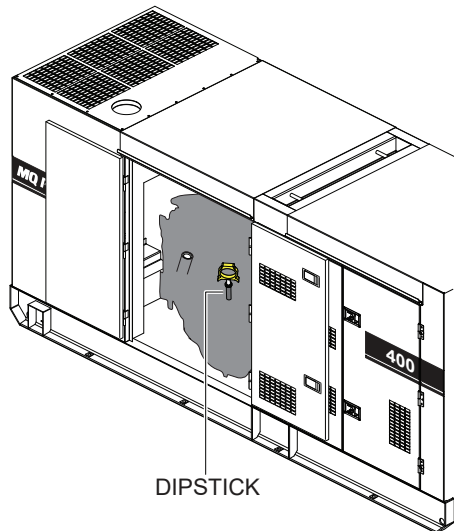

Figure 22. Engine Oil Dipstick
2. Remove the **dipstick** from its holder (Figure 22) and wipe it clean.